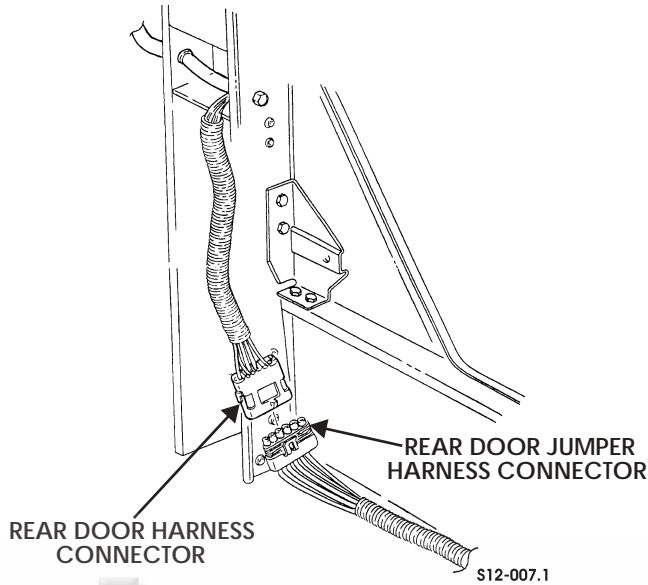

Figure 13-91: Power Windows and Door Locks Rear Door Harness and Rear Door Jumper Harness
4. Disconnect jumper harness connector from power windows and door locks rear door harness connector (Figure 13-91).
1. Connect jumper harness connector to power windows and door locks rear door harness connector (Figure 13-91).